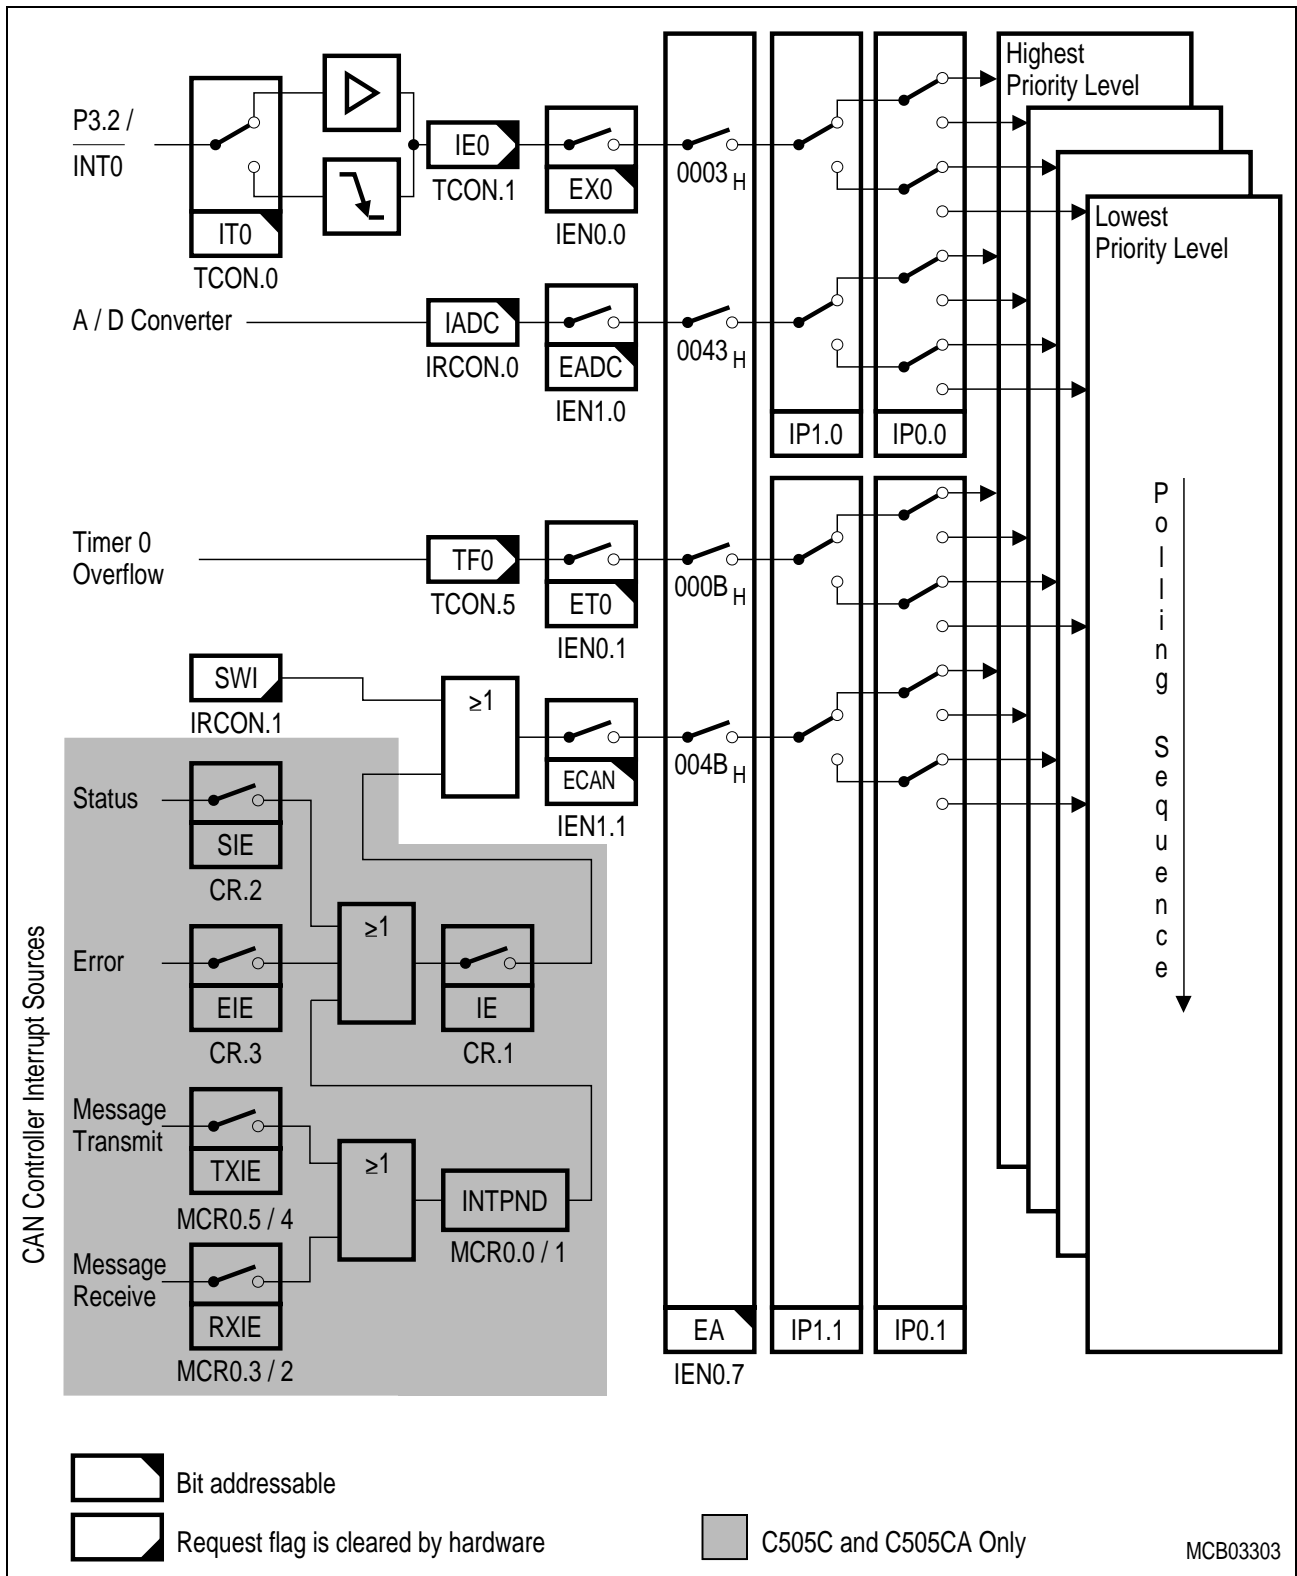

Figure 21
*Note: Each of the 15 CAN controller message objects (C505C and C505CA only), shown in the shaded area of **Figure 21** provides the bits/flags.*